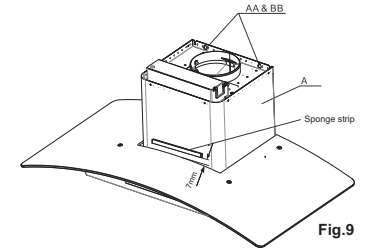

Fig.9
- Hook the hood body(A) onto the screws(AA and BB) mounted onto the wall and securely tighten the screws(AA and BB) to secure the hood body(A) on the wall. Peel off the backing and stick sponge strip to the front side of the fan housing as shown (Fig.9)